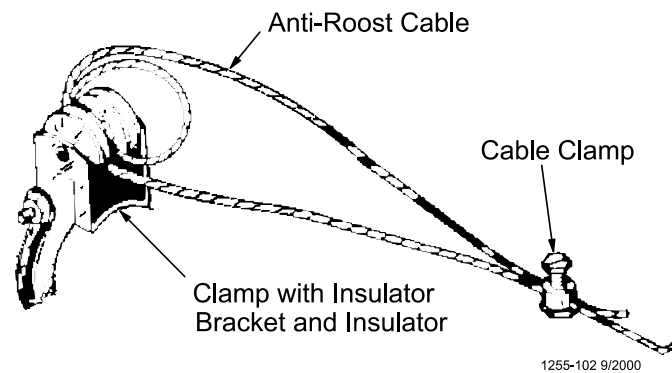

Figure 50. Anti-Roost Cable at the Hopper
7. Start at the hopper end of the line and form a loop around the anti-roost bracket. For best results, make a double loop around the anti-roost insulator in the center groove of the insulator and fasten with a 1/16" cable clamp as shown in **Figure 50.**